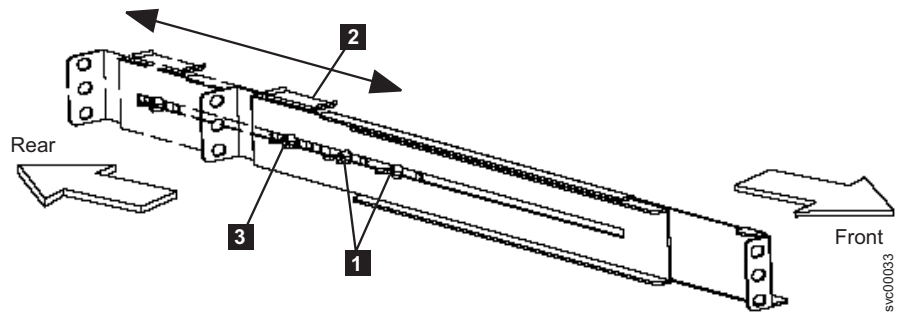

Figure 26. Adjusting the rail depth on the 2145 UPS-1U
3. Loosen the assembly wing nuts (see **1** in Figure 26) on both rail assemblies and adjust the rail size to the depth of your rack.
4. Position the rear, hold-down bracket **2** towards the end of the rail assemblies and tighten the wing nut **3**. See Figure 26.